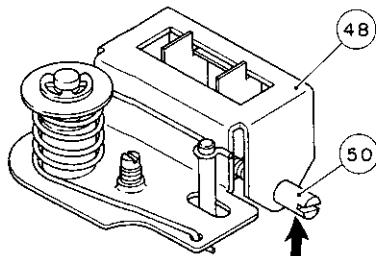
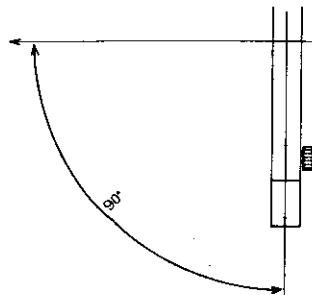

Figure 21
Figure 22
1. Remove the Cabinet top according to DISASSEMBLY INSTRUCTIONS (B) (page 3).
2. Turn the Screw (50) described in Fig. 21 so that the tonearm will be mounted at right angles with its moving direction (Fig. 22).